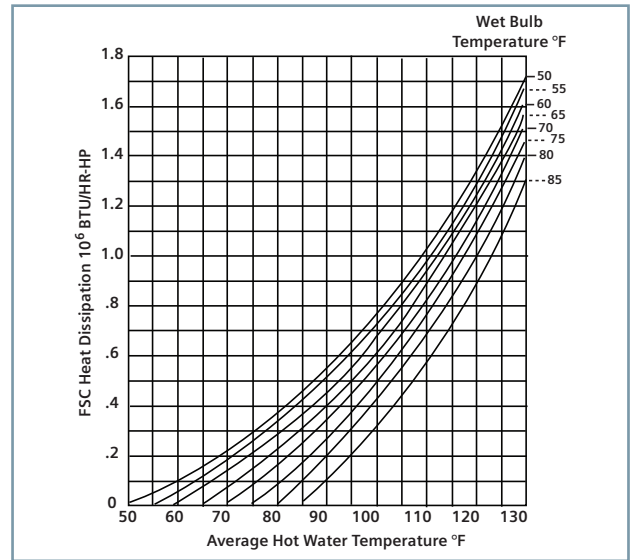

Figure 1. Typical Aqua-Lator™ Spray Cooler performance chart.
3. ENTER Performance Chart (Figure 1) at 100°F Average Hot Water Temperature to intersect 80°F Wet Bulb Temperature and read a FSC Heat Dissipation Rate of $0.41 \times 10^6 \text{ BTU/HR-HP}$
The performance chart shown in figure 1 was plotted based upon performance of the Model FSC-50-4 (50 horsepower 4-nozzle). The thermal performance of the 4-nozzle spray cooler configuration is inverse to the horsepower rating. Therefore, in employing the use of a single performance chart, use thermal efficiency factors which are designated as Θ factors.